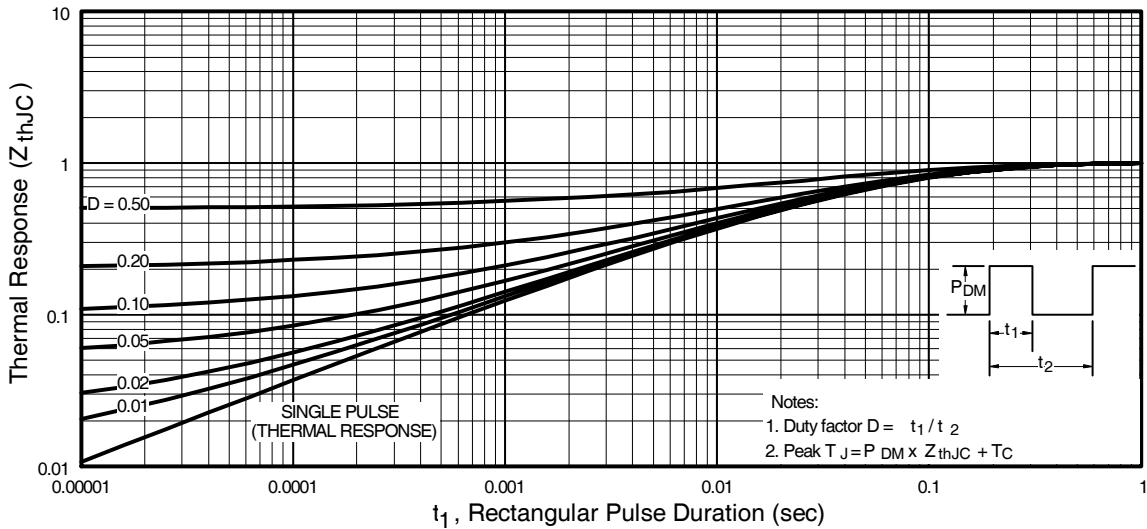

Fig 11. Maximum Effective Transient Thermal Impedance, Junction-to-Case
- ① Repetitive rating; pulse width limited by max. junction temperature. (See fig. 11)
- ② Starting $T_J = 25^\circ\text{C}$, $L = 16\text{ mH}$